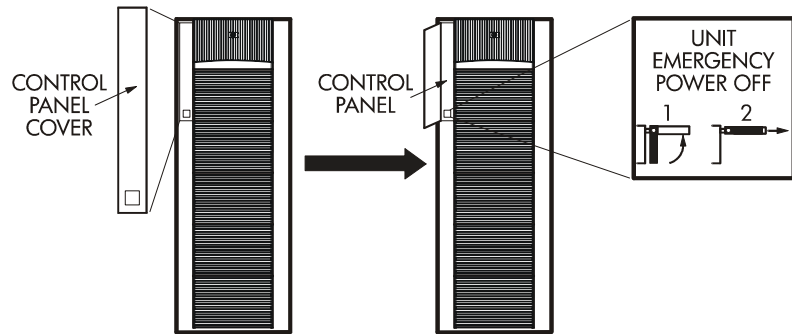

Figure 4. Pulling Unit Emergency Power Off Switch
A switch is provided on the control panel for an emergency powering off. See Figure 4 on page 35.
2. Pull the emergency power-off switch up and then out towards you as illustrated on the switch. See Figure 4 on page 35.